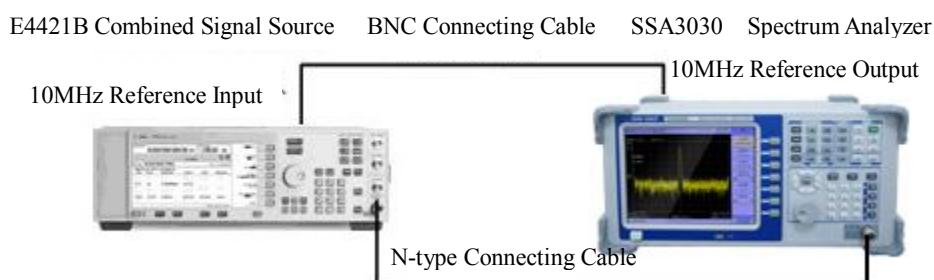

Fig. 6-1 Test Connection Diagram of Frequency Reading Accuracy
The testing block diagram is shown in Fig. 6-1:
- 1) Connect the equipment as shown in Fig. 6-1 and preheat for 30min. Be aware that SSA3030 and combined signal generator share the time base.
- 5) Refer to Table 6-1, change the span of analyzer to 1MHz, 10MHz and 100MHz, and repeat step (4).